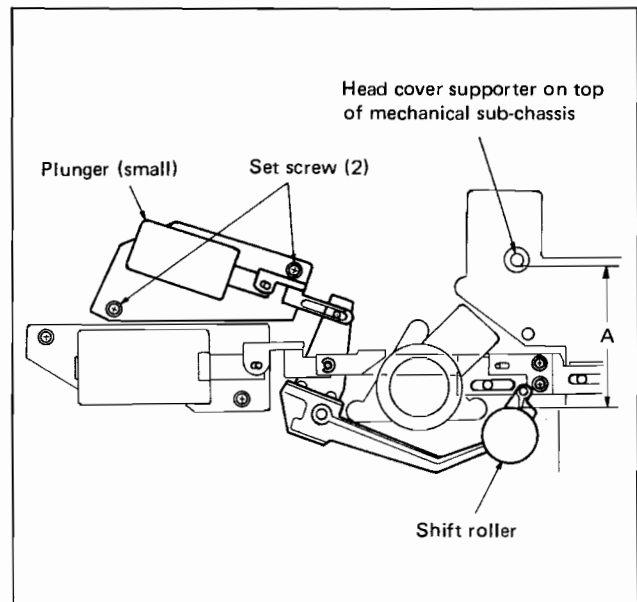

Fig. 5-8.
- Supply 4V to the plunger (small), and fix the plunger (small) by using the two set screws at a position where the dimension "A" (in Fig. 5-8) is 79 mm.